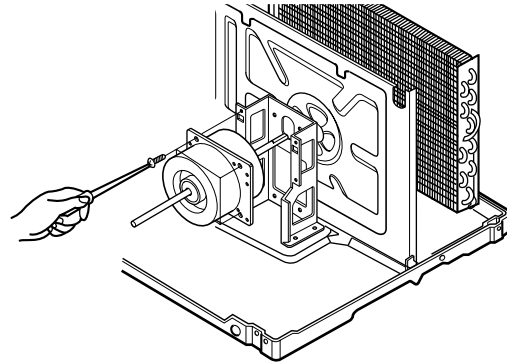

Figure 15
7. Remove the 2 or 4 screws which fasten the motor from the mount motor. (See Figure 15)
9. Re-install the components by referring to the removal procedure, above.(See Figure 15)